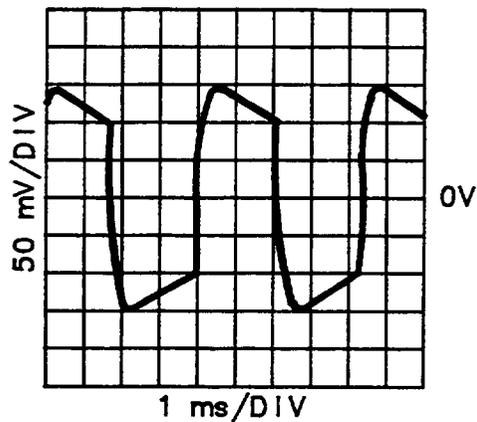

Figure 8-5. A4U7 pin 3 Range Attenuator 1 Waveform
8. Connect the oscilloscope to A4U7 pin 3. Verify the signal shown in Figure 8-5. The signal level should be 0.12 Vp-p  $\pm$ 0.01V.